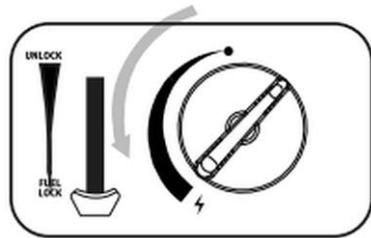

Fig. 9
1. Next, rotate the rotary controller (17) to the leftmost ignition position (18) and hold it for a couple of seconds in the position until the ignition clicks. (Fig. 9)